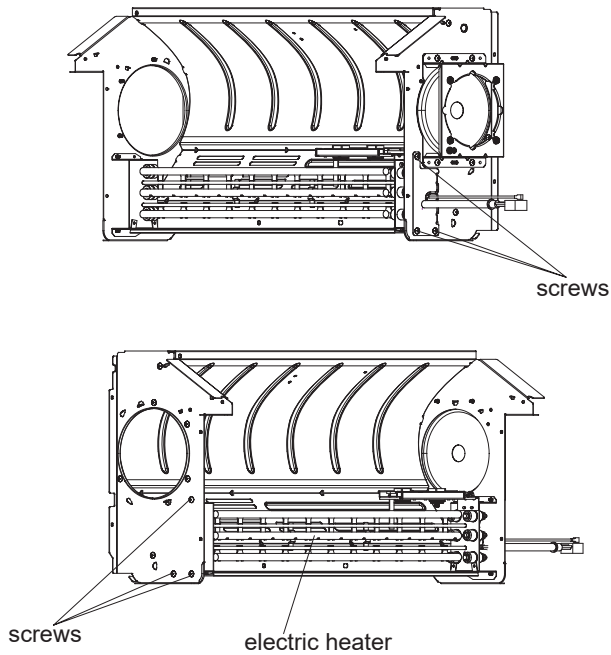

Figure 523
11. Remove Electric heater. See Figure 523.